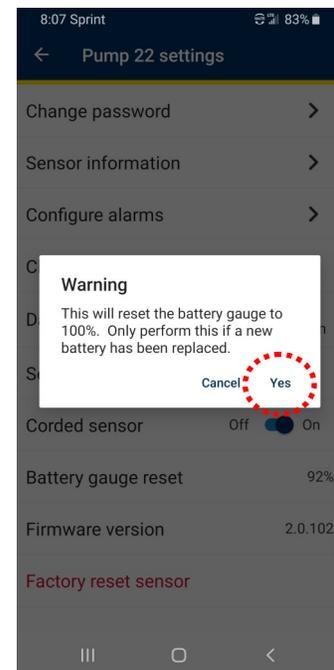

Figure 40
4. A Warning will appear, click **Yes** and reset to 100% battery (see figure 40).